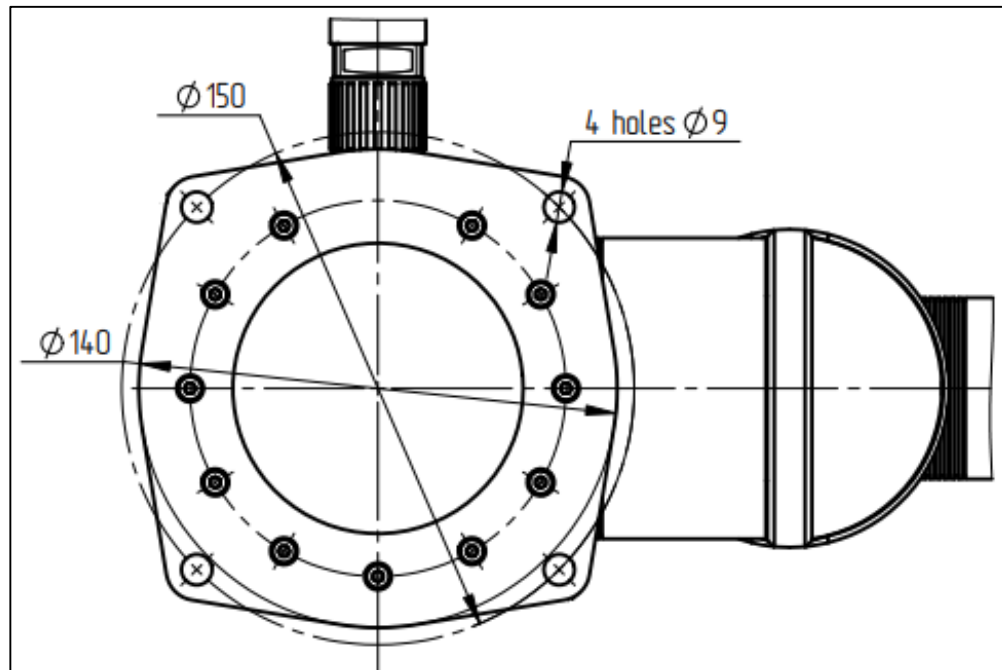

Figure 2-1: Mounting the arm by Method 1
Though the footprint of the PULSE robotic arm is as small as 120 mm (see **Figure 2-1**), you need to account for the arm workspace (**Figure 1-4**) when choosing a mounting location. This is important to exclude collisions with other equipment or objects.
- Insert 4 M8 bolts into the four 9-mm dia. holes on the transition plate (see **Figure 2-1**) and tighten the bolts up as appropriate.